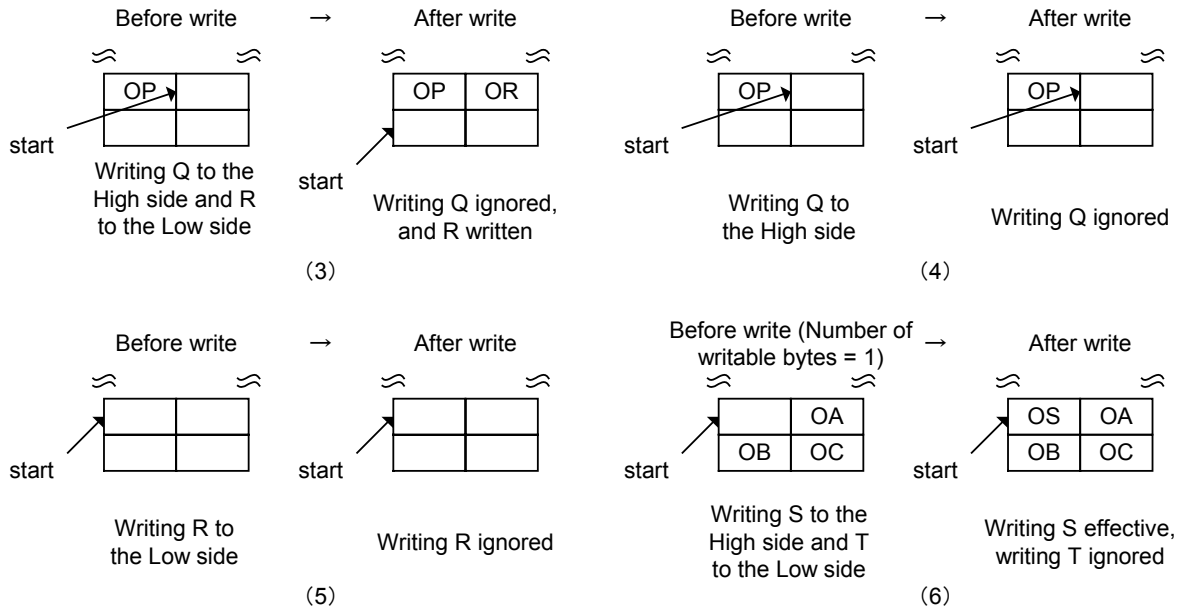

Fig. 6.82 FIFO write processing (operations that require caution)
If data is written wordwise while the FIFO has a byte boundary in it, a write to the High side is ignored, and data is written to only the Low side ((3) in Fig. 6.82). This is the same as writing data to the Low side bitwise. Furthermore, if data is written to only the High side while the FIFO has a byte boundary in it, the write operation performed is ignored ((4) in Fig. 6.82).
If data is written to only the Low side while the FIFO has no byte boundary in it, the write operation performed is ignored ((5) in Fig. 6.82). Furthermore, if data is written wordwise while the FIFO has no byte boundary in it and the number of writable bytes is 1, a write to the Low side is ignored and data is written to only the High side ((6) in Fig. 6.82). This is the same as writing data to the High side byte-wise.